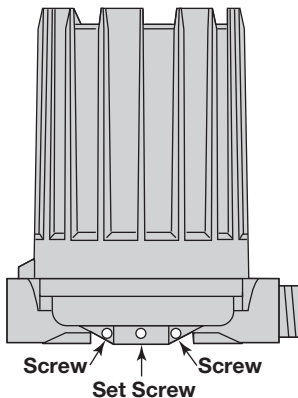

Figure 2
1. Loosen set screw(s) at base of switch housing. Refer to Figure 2.
14. Loosen the set screws at the base of the switch housing. Rotate switch housing to correct position and tighten set screws. Refer to **Figure 2** on page 5.